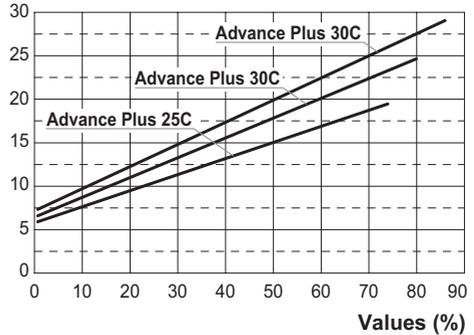
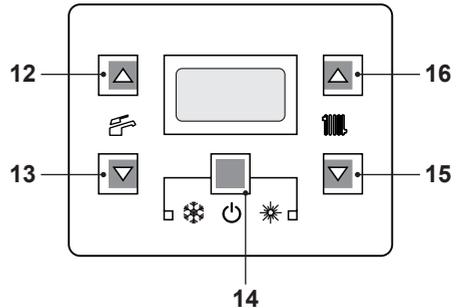
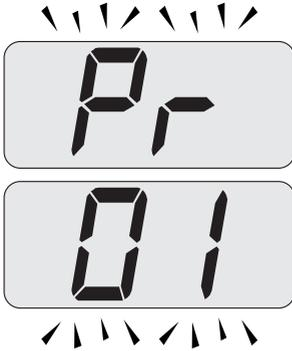
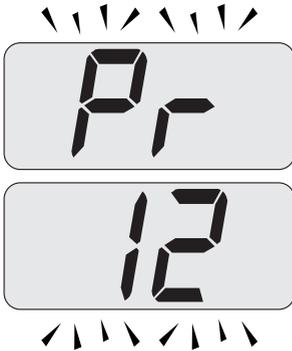

Fig. 7.41
Fig. 7.42
Fig. 7.43
Fig. 7.44
Refer to Fig. 7.41 and determine the correct Value appertaining to the output required for the central heating requirement.
- Enter the "programming mode" by pressing keys 14 - 15 - 16 (Fig. 7.42) for 10 seconds at the same time until the letters **Pr** that alternate with code **01** are displayed on the LCD display, indicating that "parameter 01" (Fig. 7.43) has been activated.
- Scroll the various parameters using keys 15 or 16 until the letters **Pr** that alternate with code **12** are displayed on the LCD display, indicating that "parameter 12" (Fig. 7.44) has been activated.
- Press keys 14 and 16 (Fig. 7.42) at the same time until the value of parameter 12 (74=Advance Plus 25C or 78=Advance Plus 30C or 84=Advance Plus 35C) is displayed on the LCD display (Fig. 7.45).
- It is possible to modify parameter using keys 15 or 16 (Fig. 7.42) (Refer to Fig. 7.41 and determine the correct Value appertaining to the output required for the central heating requirement.).
- By pressing key 14 (Fig. 7.42) confirmation of the inserted value is obtained.
- Press keys 14 and 15 (Fig. 7.42) at the same time to exit without changing the value (return to the parameters list Fig. 7.44)
- Press keys 14 - 15 - 16 (Fig. 7.42) at the same time for 10 seconds to exit the "programming mode".